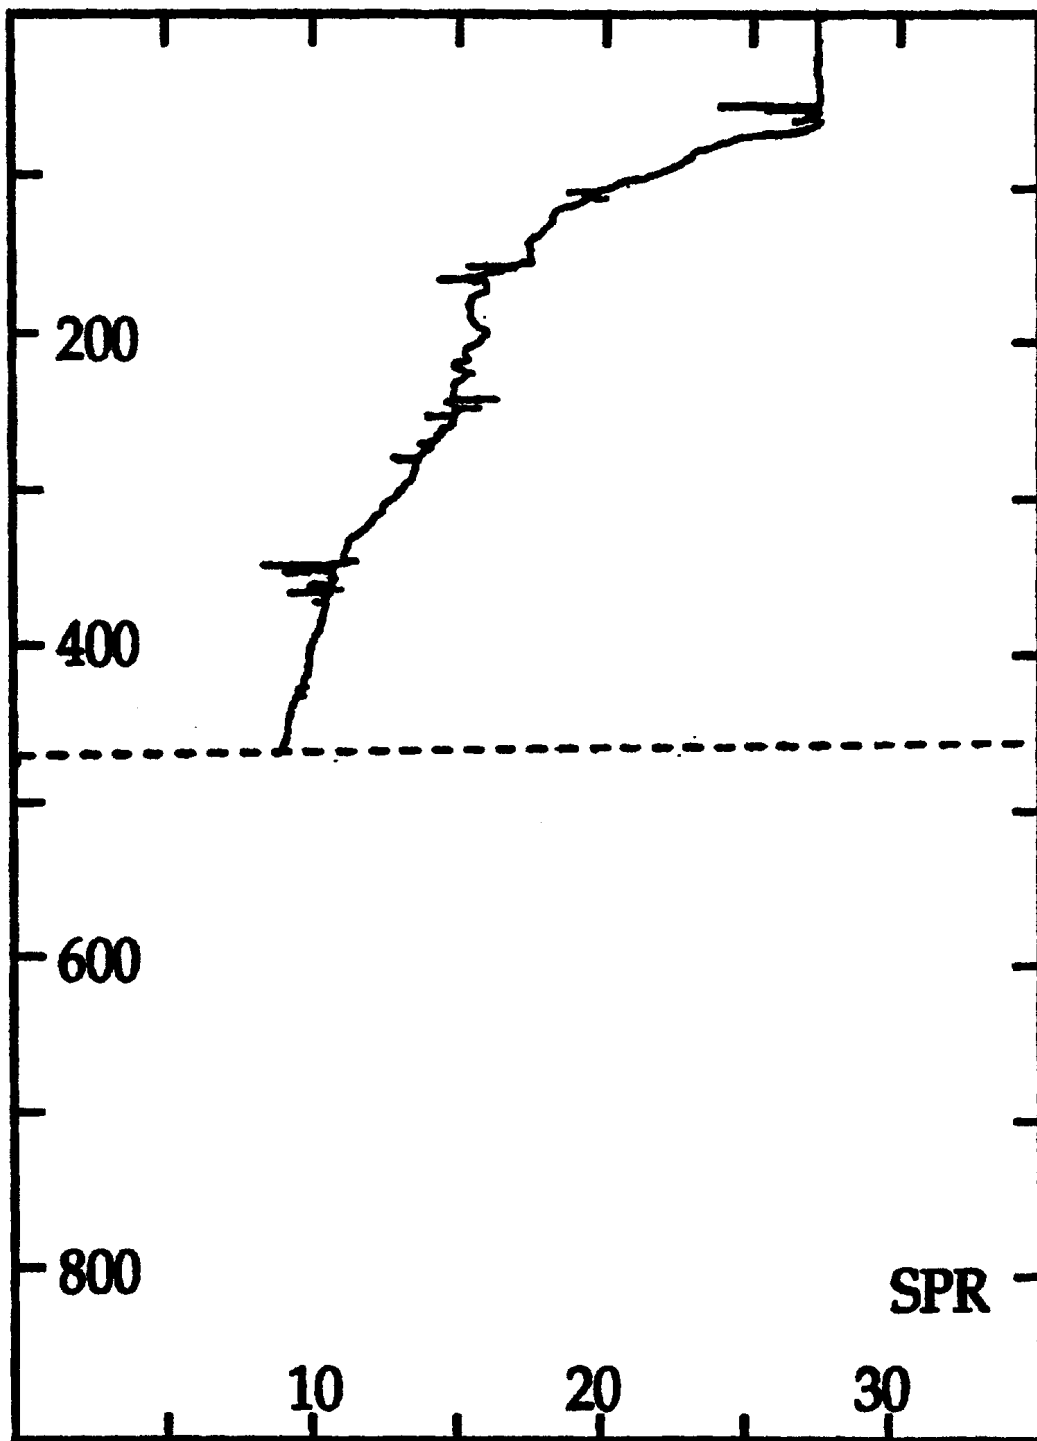

Figure 8i. Spikes Reject (SPR)
- Fig. 8i:** The SPR flag is used if large amplitude step-like features are observed in a profile.